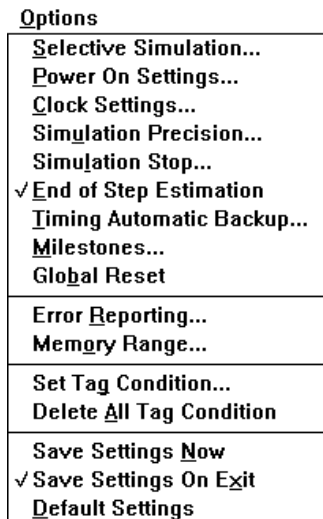
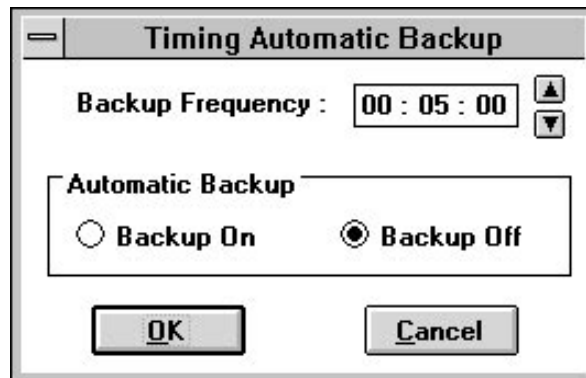
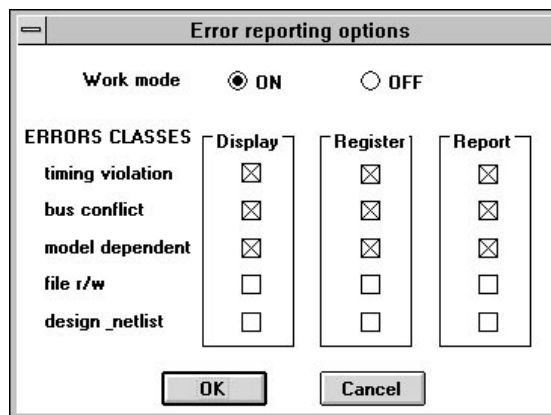

Figure 1-45. Options Menu.
Figure 1-47. Timing Backup Option.
Figure 1-48. Error Reporting Window.
1. **Options** menu (Figure 1-45)
Sometimes simulation may take longer than expected. If you want to be warned beforehand about the long simulations, select the **Options** menu (Figure 1-45), and then click on the **End of Step Estimation** option.
To protect yourself from losing valuable simulation data, use the automatic data backup option by selecting the **Timing Automatic Backup** option from the **Options** menu shown in Figure 1-45. In response, ACTIVE-CAD displays the screen shown in Figure 1-47 which allows you to enter the time intervals at which an automatic backup should take place.
You can dynamically select which design errors should be reported or stored, eliminating errors that obscure your current analysis. To set up the error reporting procedure, select the **Error Reporting...** option from Figure 1-45. In response, ACTIVE-CAD displays the table shown in Figure 1-48. Toggle the Xs in the boxes to indicate which errors you want reported. You must set the **Work Mode** to **ON**. Otherwise, all error reports will be disabled. However, the red error markings on the signal waveforms will continue to appear irrespective of these settings.